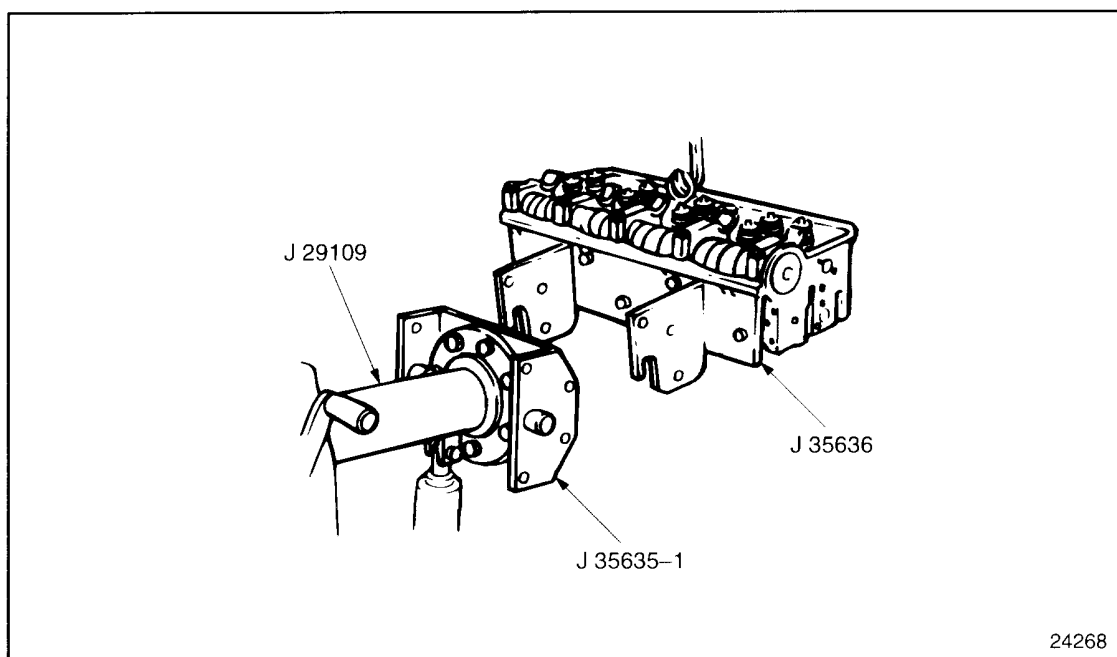

Figure 1-71 Engine Overhaul Stand
1. Bolt the engine overhaul stand adaptor, J 39652, to the engine overhaul stand, J 29109, using the hardware provided with the adaptor. See Figure 1-71.